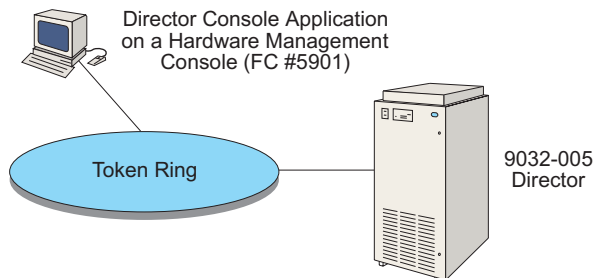

Figure 1-6. Director Console Application on a Hardware Management Console
- The S/390 server's hardware management console. This platform provides the hardware and software required to connect the PC to a Token-Ring LAN and perform Win-OS/2 administrative tasks. The Director Console application must be installed on the Console. This platform configuration is shown in Figure 1-6.